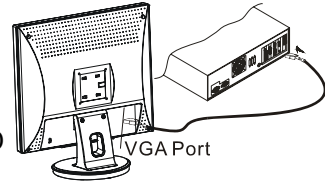

Figure 1-3
2. Connect one end of the VGA signal cable to the LCD Monitor's VGA port. (See Fig 1-3)